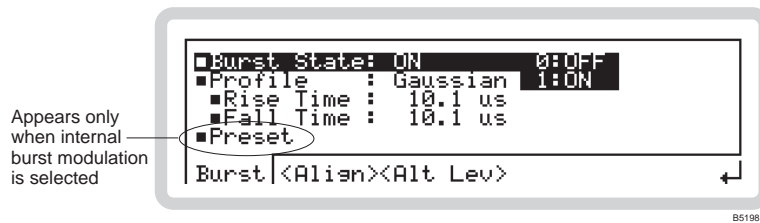
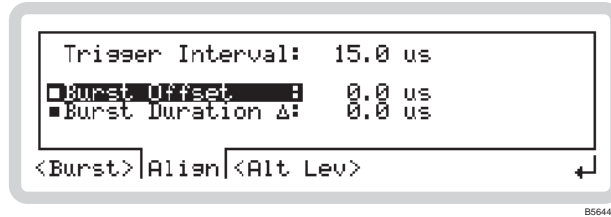

Fig. 3-34 Burst modulation
Fig. 3-35 Burst alignment
- 3 Press **SIG GEN** to show the main screen, and touch the **Burst** soft box to select the function. Touch **Burst** and press **↓** to view the burst profile screen (Fig. 3-34).
From the burst modulation menu of Fig. 3-34, touch <Align> or press **<TAB>** to display the burst alignment screen (Fig. 3-35).
From the burst modulation menu of Fig. 3-34, touch <Alt Lev> or press **<TAB>** to display the burst alternate level screen (Fig. 3-36).